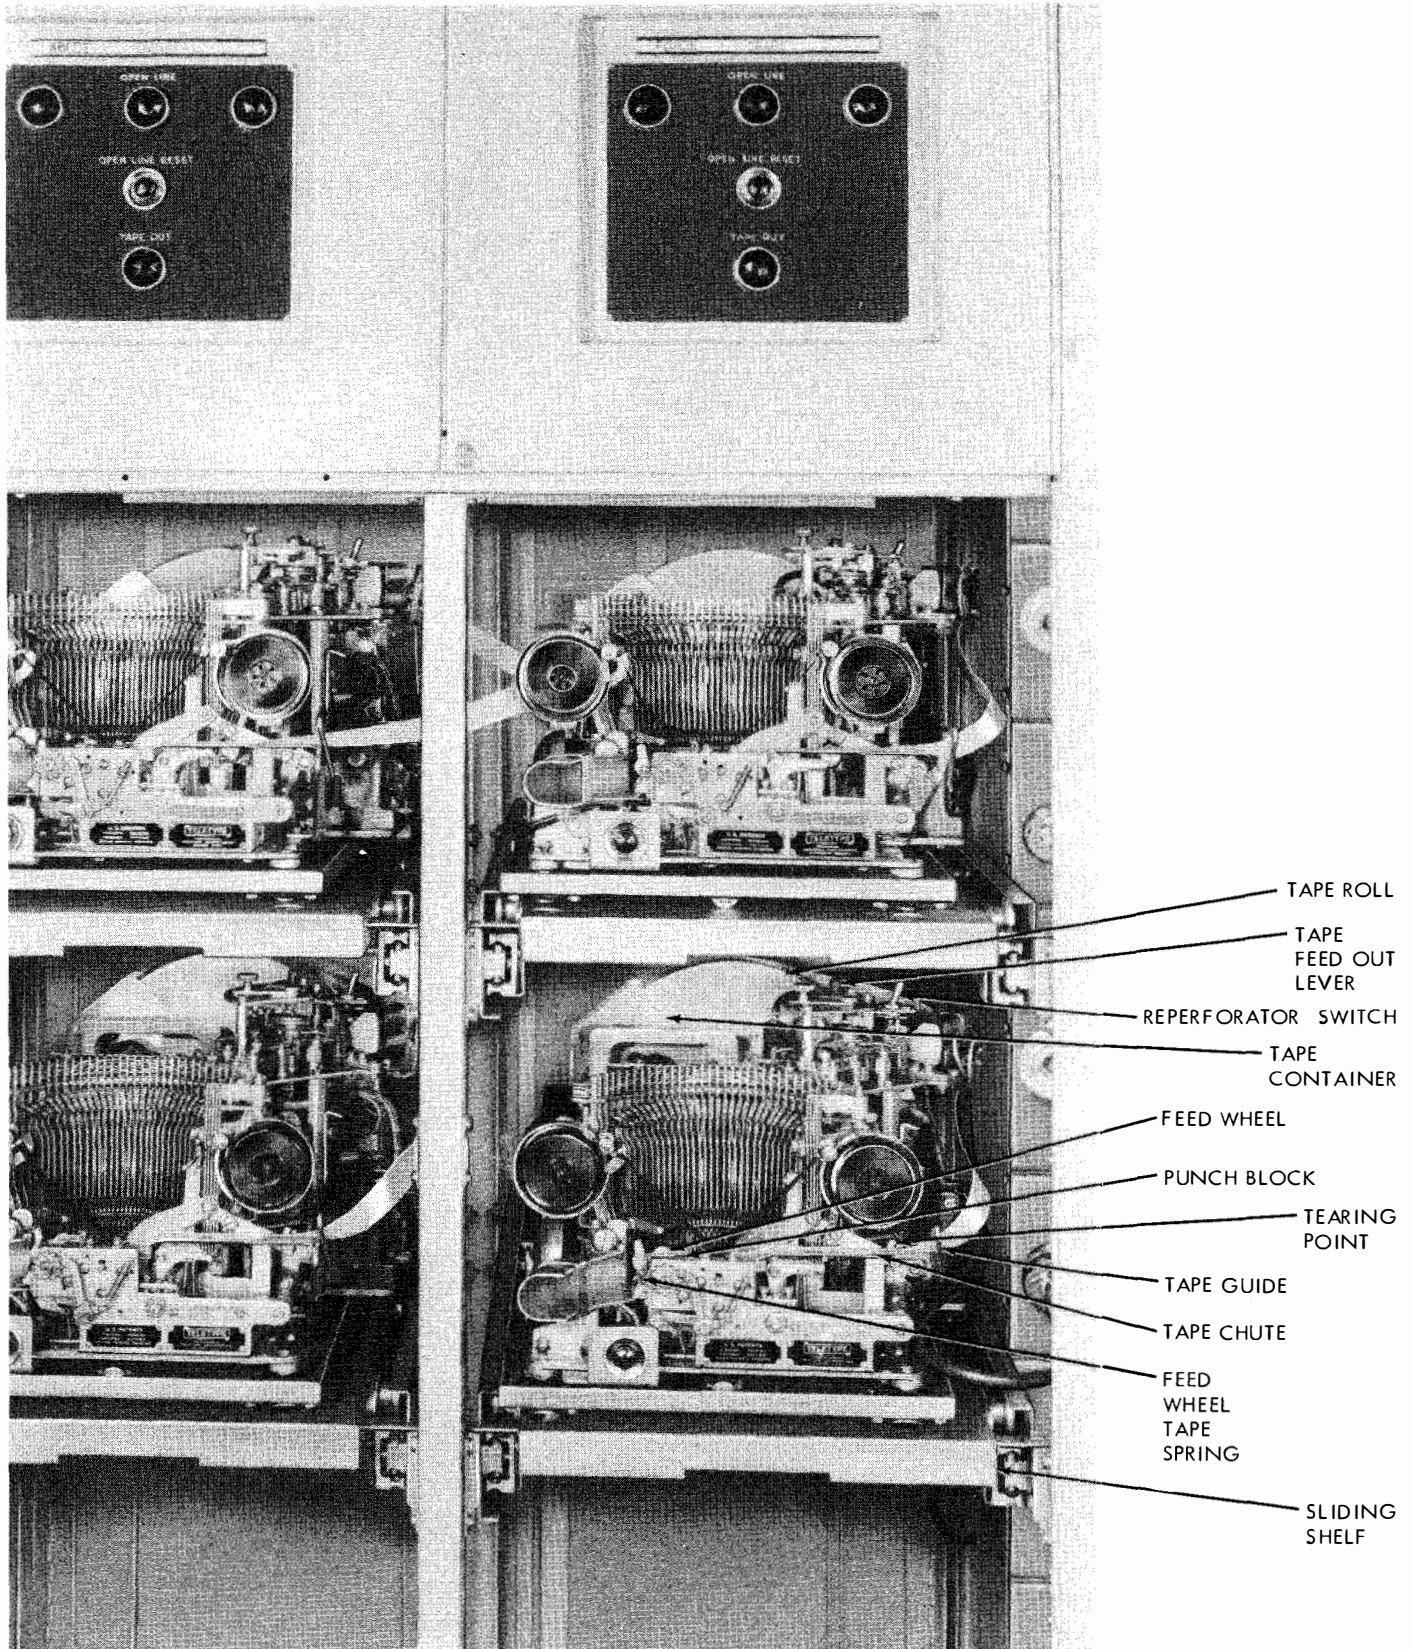

Figure 4-6. Installing Receiver Reperforator Tape
chine is operated (see figure 4-6). Place the new roll of tape in the tape container. The new roll of tape should unwind up and toward the right side of the cabinet. Feed the tape through the guides, through the tape chute and the punch block. Lift the feed wheel tape
(1) Insert one end of the patching cord into the REPERFORATOR jack of the spare reperfocator. The reperfocator will start to operate as if on open line and the OPEN LINE alarm lamp will indicate an open line.
(2) Insert the other end of the patching cord into the SIGNAL LINE jack of the operating position. This must always be done after the first end is inserted into the REPERFORATOR jack of the spare or an open line will prevail until both plugs are inserted. Reset the OPEN LINE alarm for the spare position. Both reperfocators will now be receiving the message.
(3) Watch the operating reperfocator for the end of the message in process at the time the spare reperfocator was inserted. As soon as the end of the message is received, tear off the partial message received on the spare reperfocator and discard. Open the door covering the operating position, turn the power switch on the operating reperfocator to the OFF position, and withdraw the shelf from the cabinet.
(4) Tear the tape on the old roll near the right-hand end of the tape chute that feeds the tape into the reperfocator. Remove the tape out alarm plug from its receptacle. The rotating tray can be rotated by releasing the holding stud (by pulling down on the thumb nut located on the underside of the sliding shelf in the right front area). This will make the tape more accessible if it is being replaced from the rear. Turn on the power to the reperfocator and clear the tape by operating the tape feed-out lever located next to the range scale. Turn the power off.
(5) Replace the old tape roll in the TAPE CONTAINER with the new tape roll unwinding up and toward the right side of the cabinet. (See figure 4-6.) Feed the tape through the tape guide, through the tape chute, punch block, and feed wheel of the reperfocator.
(6) If the rotating tray was rotated, restore it to its operating position. Replace the tape out alarm plug. Take the slack out of the tape by rewinding it on the roll. Turn the power on and check tape feeding. Restore the sliding shelf to its operating position and close the door.
(7) Watch for the end of the message being received. As soon as the end of the message has been received, pull out the plug of the patching cord from the SIGNAL LINE jack. This plug must be pulled out first to prevent an open line condition. Pull out the second plug. This will shut off the power to the spare reperfocator. Reset OPEN LINE alarm on spare position.